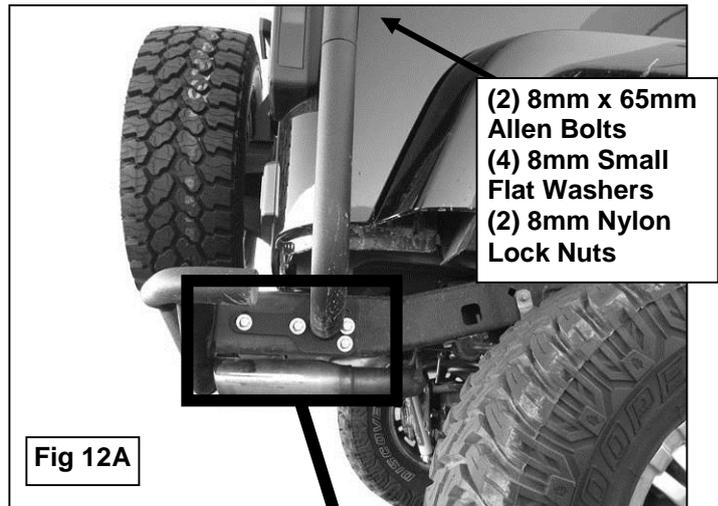

Fig 12A
12. Position the passenger Rear Bottom Leg up to the frame and align the holes in the Bracket with holes in the frame for the bumper. Secure the rear holes in the Mounting Bracket to the bumper using the same bolts that came with your aftermarket bumper. Attach the front of the Bracket to the frame using the factory bolts or the included hardware, **(Figure 12A & 11B)**. Repeat this step for the driver side installation.